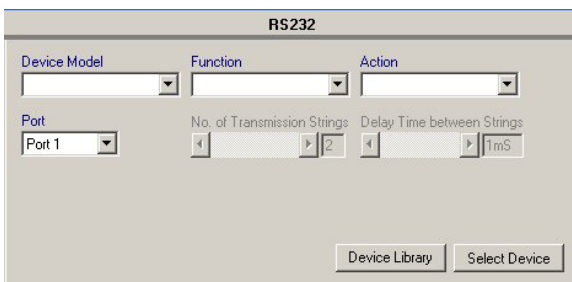

FIG. 56 RS232 options
1. In the AMX DCS window, click **RS232**. The RS232 options appear (FIG. 56).